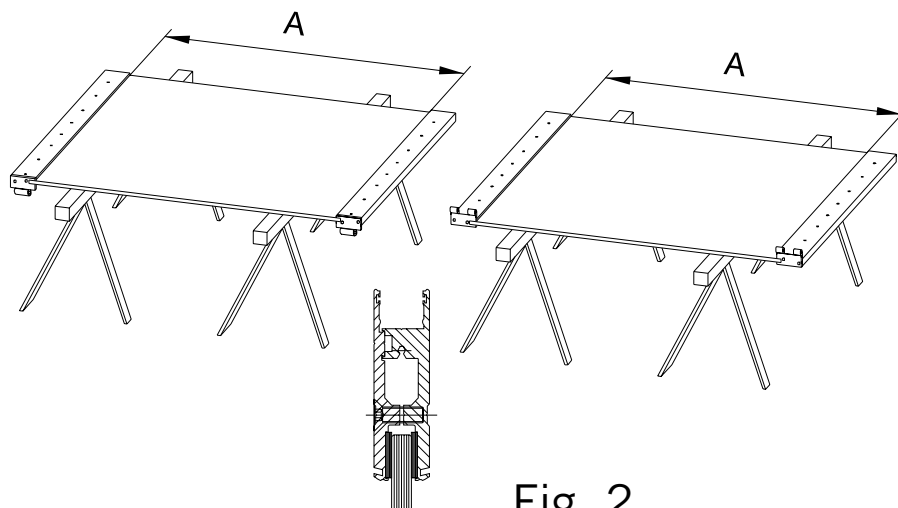

Fig. 2
2. Fitting the hinged door rails to the glass panel (Fig. 2):